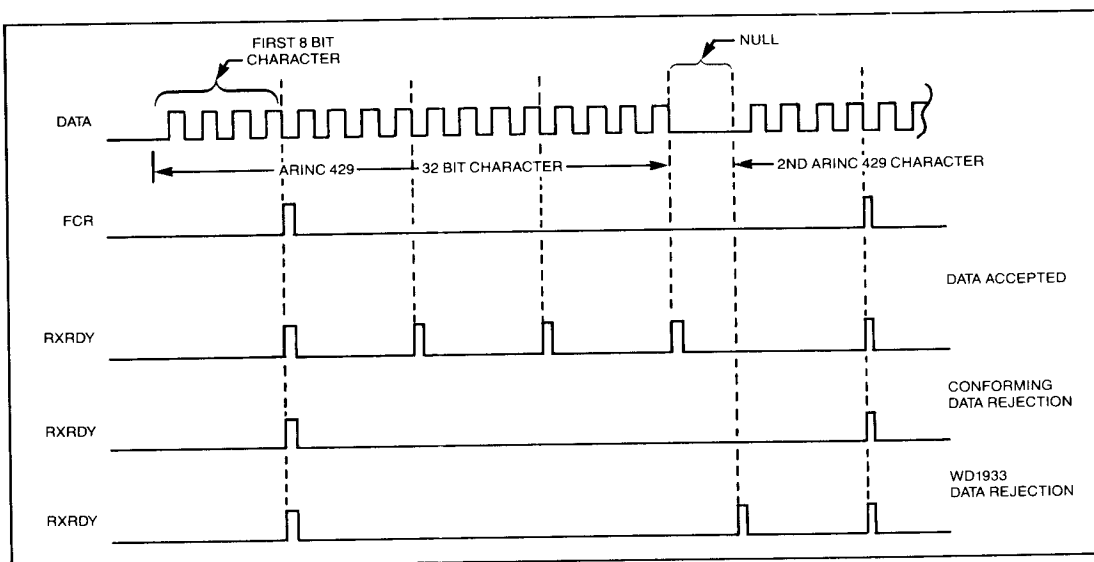

FIGURE 3
- When the first character is completely assembled in the Receiver Register, the data is loaded into the Receive Holding Register and the FCR (First Character Ready) and RXRDY (Receiver Ready) flags become active. The CPU should read the data in the Receive Holding Register to reset the FCR and first RXRDY. If the Arinc 429 character is accepted, three more RXRDY's will be generated for the three remaining bytes of this character, i.e., every time a byte is transferred from the Receiver Register to the Receive Holding Register (see Figure 3, Data Accepted). The CPU should read the data prior to the reception of the next character (next RXRDY) or an overrun error will be generated as the receiver will overwrite the old data with the new data character just received.
The first character in the Arinc protocol contains a label. The FCR and RXRDY Flags become active to indicate the reception of the first character of data. The CPU reads the first character and decides whether or not it wants to acquire the subsequent characters. If not, then the CPU performs a "control write" to the Command Register, setting the RXRDYIN (CR3) bit to a "1." This bit in Arinc mode should inhibit the RXRDY flag from interrupting the CPU during the reception of the 3 remaining characters. The RXRDYIN bit is then automatically reset upon completion of the receive sequence and RXRDY is enabled again (see Figure 3, Conforming Data Rejection).
The WD1993 nowever generates a RXRDRY after the null character (see Note), thereby conceivably misleading the CPU that a first 8 bit character (label) of the following 32 bit ARINC 429 character, has been assembled in the Receiver Register and transferred to the Receiver Holding Register, ready to be read (see Figure 3, "WD1993 Data Rejection").